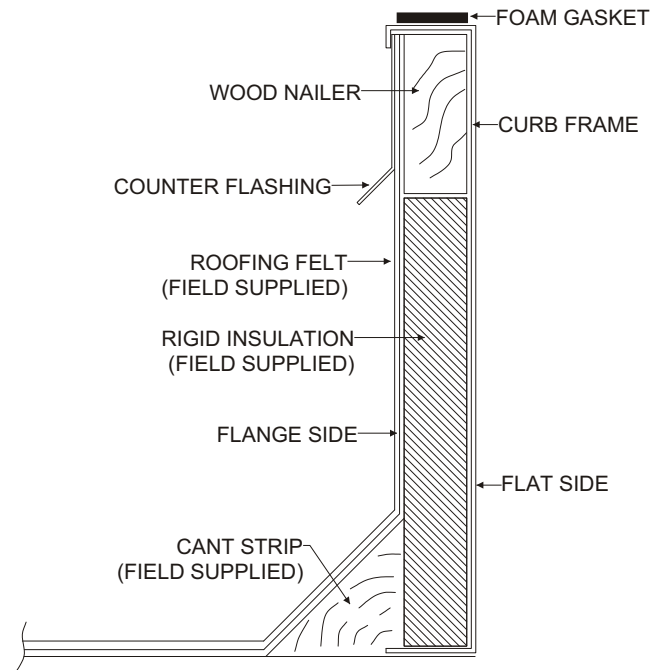

Figure 5
10. Install $\frac{3}{4}$ " x $1 \frac{1}{4}$ " foam gasket on top of all curb surfaces as shown in Figure 5.